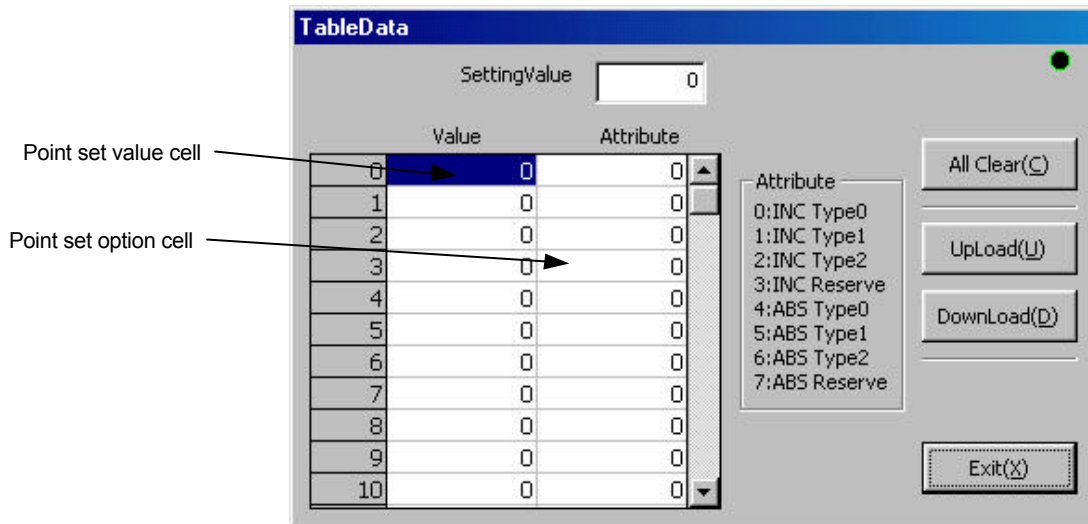

Figure 7.47 “Point Set” dialog box
Click “Point Set (P)” under “MainMenu” to display the “Point Set” dialog box (see Figure 7.47.)”